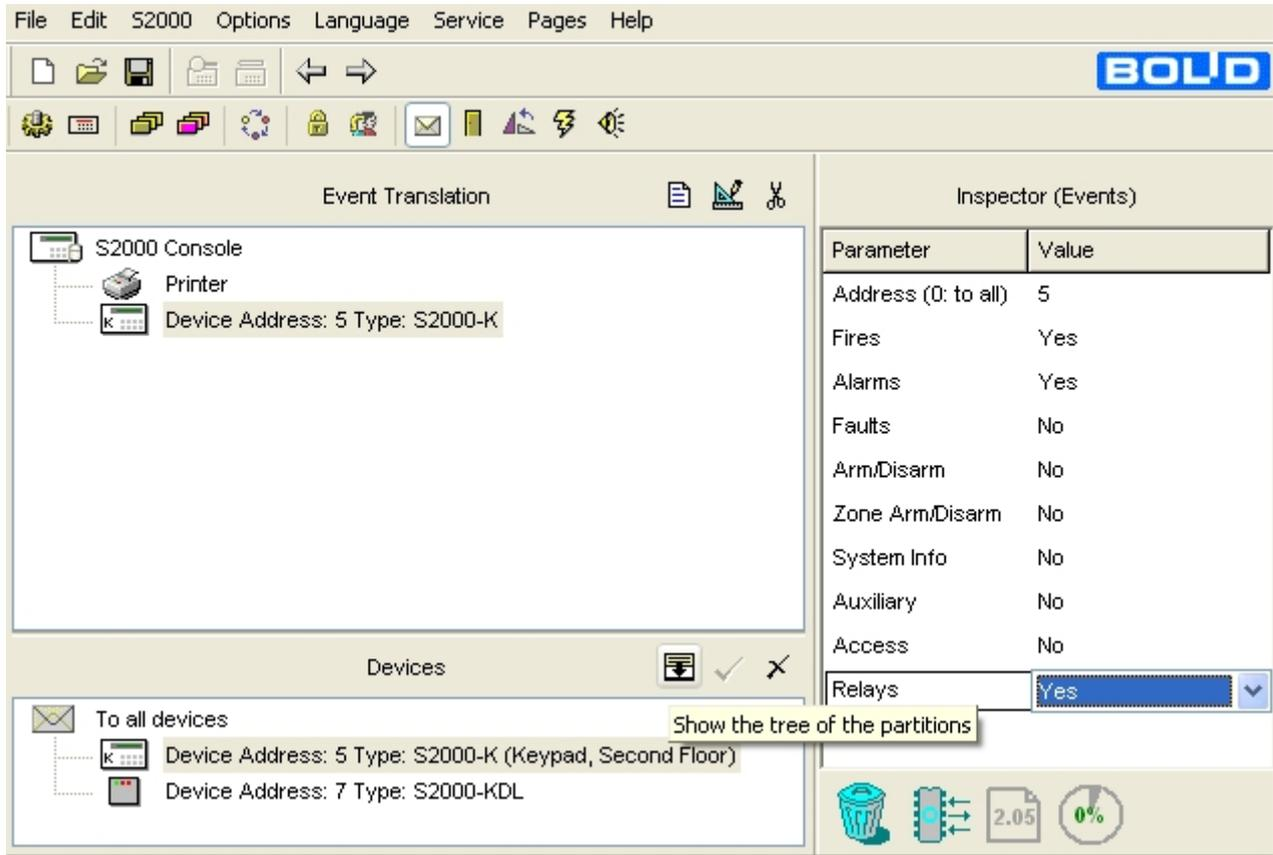

Figure 12
- Switch the bottom window of the page to the partition display mode by clicking  (see Figure 12) or selecting the relevant menu command. The list of system partitions will appear in the bottom window.